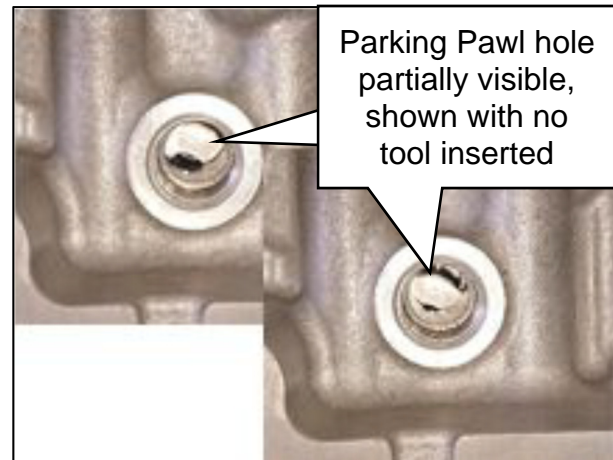

Figure 12
- If the Parking Pawl hole is partially visible as shown in Figure 12, the Parking Pawl may have moved out of position. Continue to step 13 on page 8 for **Parking Pawl Position Alignment**.
- If the Parking Pawl and the Transmission Case holes are NOT aligned as shown in Figure 12 and Figure 13 on page 7, continue to step 14 for **Parking Pawl Position Recovery**.